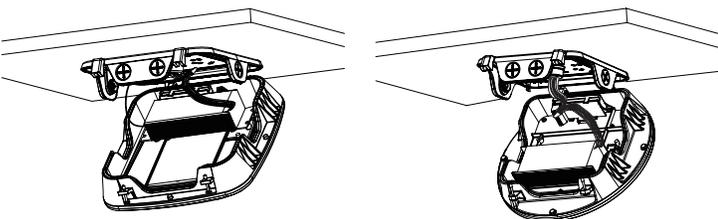

Fig. 4
4. Turn off the power and make electrical connections as shown in the wiring diagram (page 1). Use approved wiring connectors and wire according to local codes (Fig. 4).